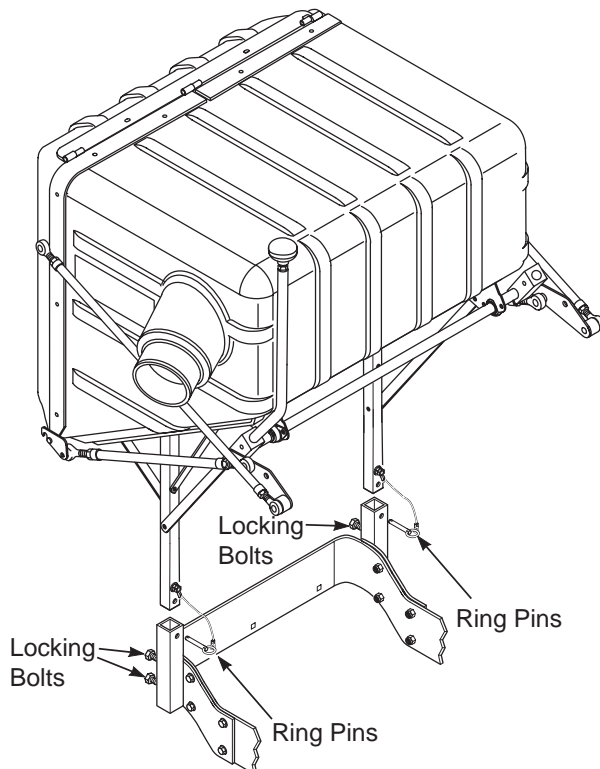

FIGURE 3-5
12. With help from an assistant, install the hopper assembly to the machine by installing the mounting post into the hopper mounting brackets and secure with the ring pins. Tighten the bolts and jam nuts. See Figure 3-5.